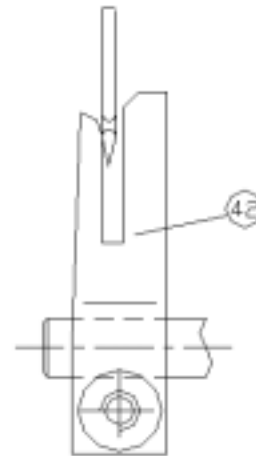

FIG.18
The needle guard (44) serves to stop any bending of the needle during the sewing of very thick pieces of fabric. The part of the needle guard that performs this function is the inner side of the shortest tooth. FIG.18.